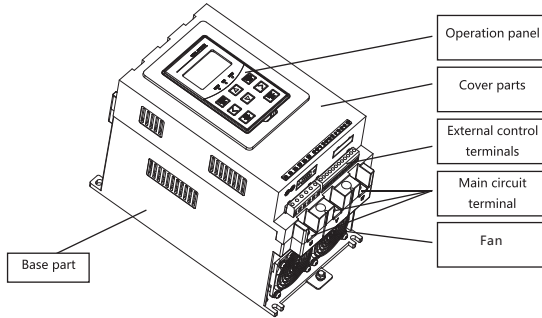

Figure 4.1 Overall Structure Diagram
4.1.1 General structure diagram, see figure 4.1.